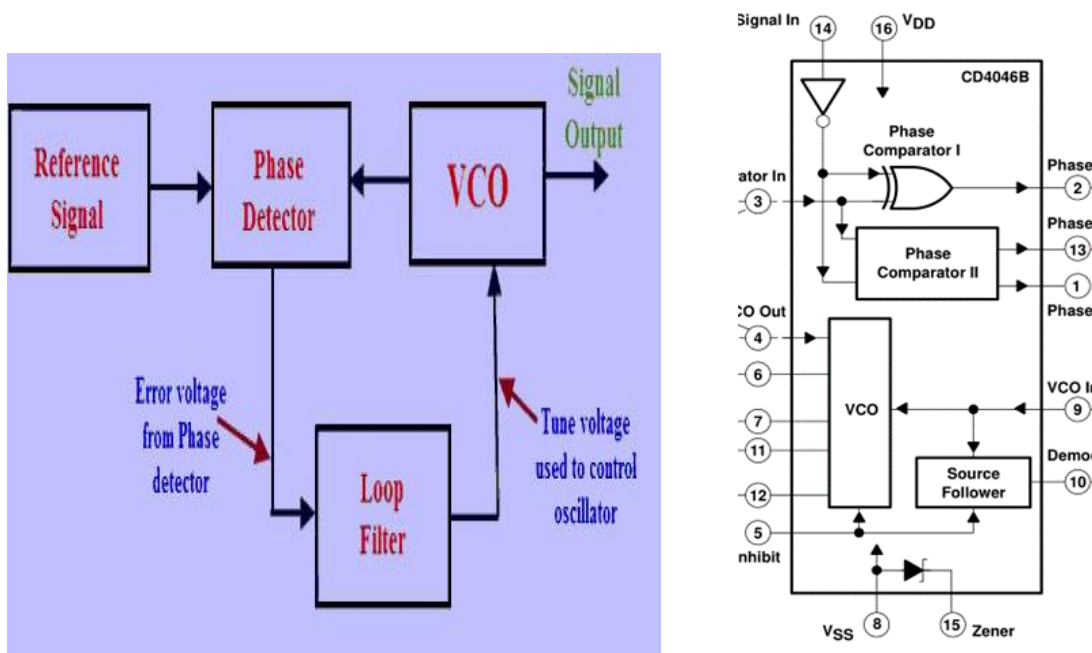

Figure 1 Basic block diagram of Phase Locked Loop [1,2]
PLL is very useful circuit block widely used in radio frequency (RF) and wireless communication. The key operation of a PLL is to detect phase difference (frequency difference) between two signals. The phase difference is then feed into a low pass filter which converts the phase difference to voltage difference. Finally, the voltage is fed to VCO input to generate frequency with same phase of the other signal. As a result, phase (frequency) of the both signals are locked. The basic block diagram of a PLL is shown in Figure 1. We will explore VCO part of the PLL (CD4046B) to generate different frequency.